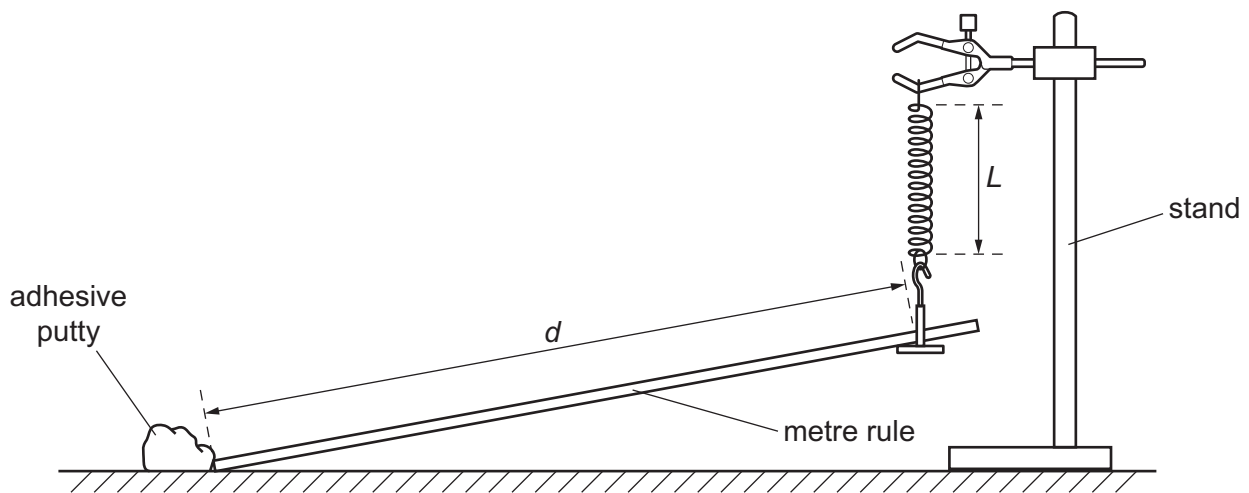

Fig. 2.2
- (c) (i) • Set up the apparatus as shown in Fig. 2.2.
- The distance between the lower end of the rule and the mass hanger is d , as shown in Fig. 2.2. The length of the coiled section of the spring is L .